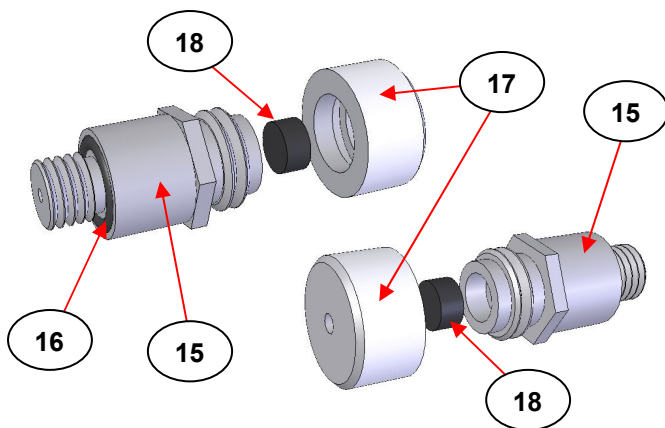

Fig 10. Exploded Views of the Liquid/Gas Septum Injector Assembly
The liquid/gas septum injector assembly (13) is shown in more detail for its parts from **Fig 10**. It consists of a body (15) that contains a sealing O-ring (16) in silicone material. The septum injector body (15) has 5/16" B.S.F threading to screw into the gas cell body (2) at the inlet/outlet ports (7), to seal via the O-ring (16). At the other end of the septum injector body (15) there is M12 threading for fitting of the septum injector cap (17). A septum (18) is placed within the body (15) and is held tight for sealing by screwing the cap (17) to the body (15).